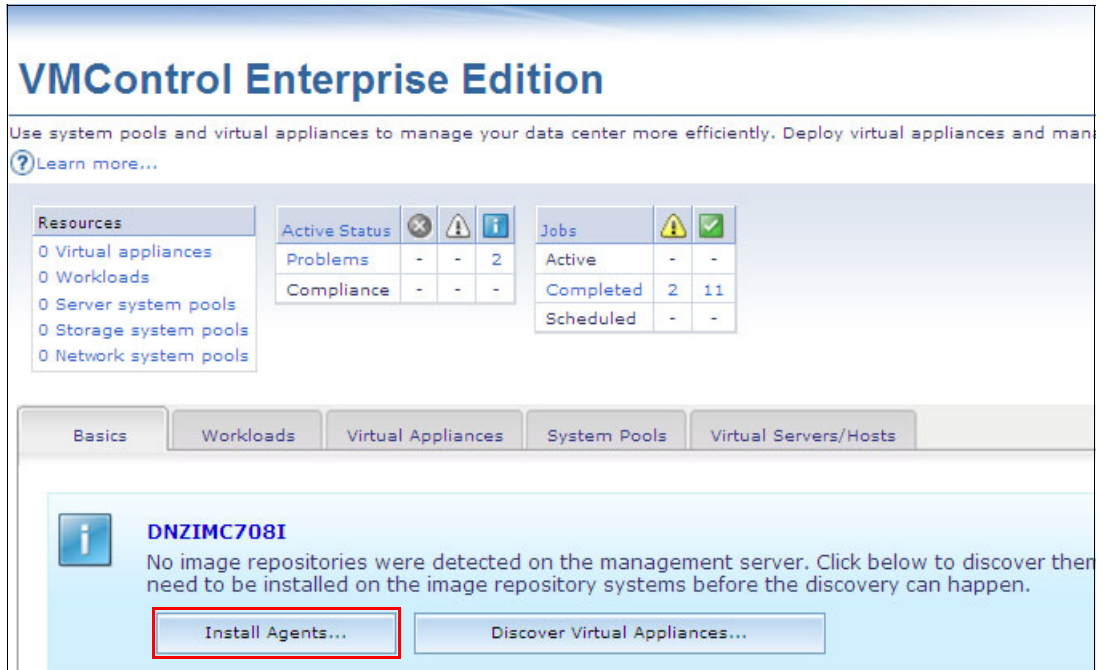

Figure 10-46 Install Agents on the Basics tab
1. Click **Install Agents**, as shown in Figure 10-46 on page 427.